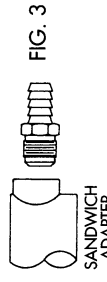

FIG. 3
2. Coolers without metal line kit - Install hose barbs in sandwich adapter. (FIG. 3) Go to step 4.